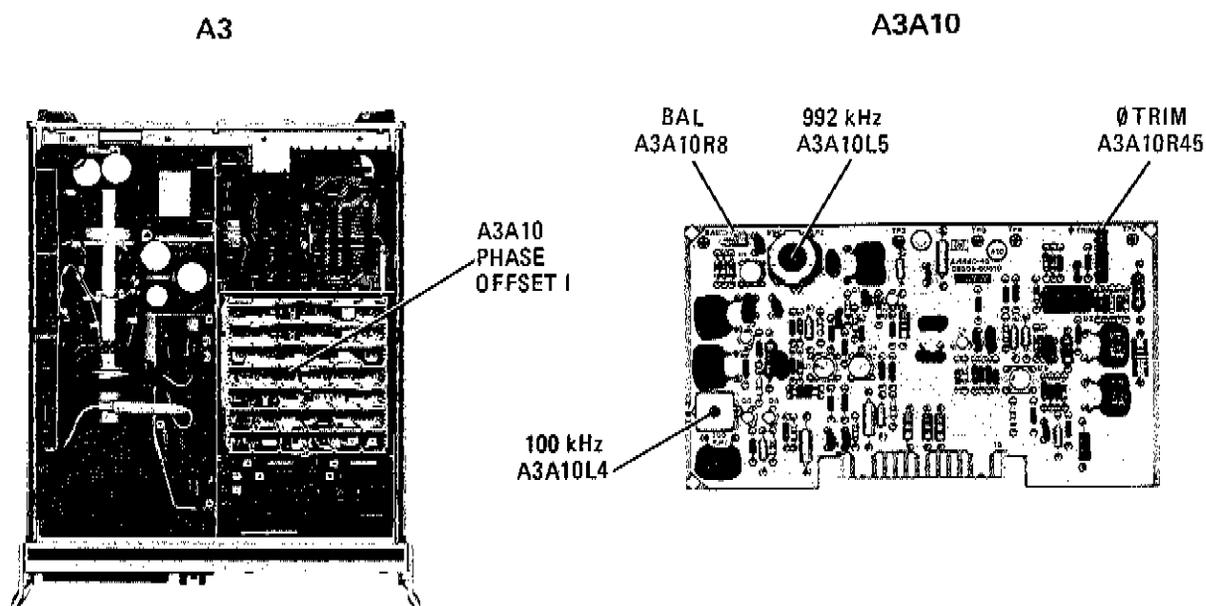

Figure A5-34. A3A10 Adjustment Locations
- d. Set NORM-ALIGN switch S1 on A3A9 PHASE OFFSET 2 board to NORM (left). Connect 8553B Spectrum Analyzer to A3A10TP1 using 1121A probe. Adjust "100 KHZ" control A3A10L4 (Figure A5-34) for maximum 100 KHz signal.
- s. Observe the CRT trace. If the trace is not on the center graticule line, adjust " ϕ TRIM" control A3A10R45 to place the trace on the center graticule line \pm 0.2 degrees (Figure A5-34).